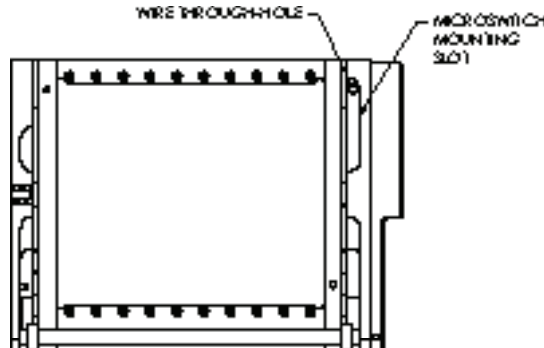

FIGURE 1. 10 MODULE RECEIVER
1. There are four slots machined into the receiver beside the two engagement slides that accept the ITA rollers. Locate the large slot along the top of the right engagement slide (Figure 1).
2. Place the Microswitch in the slot, feeding the wires through the hole provided (Figure 1).